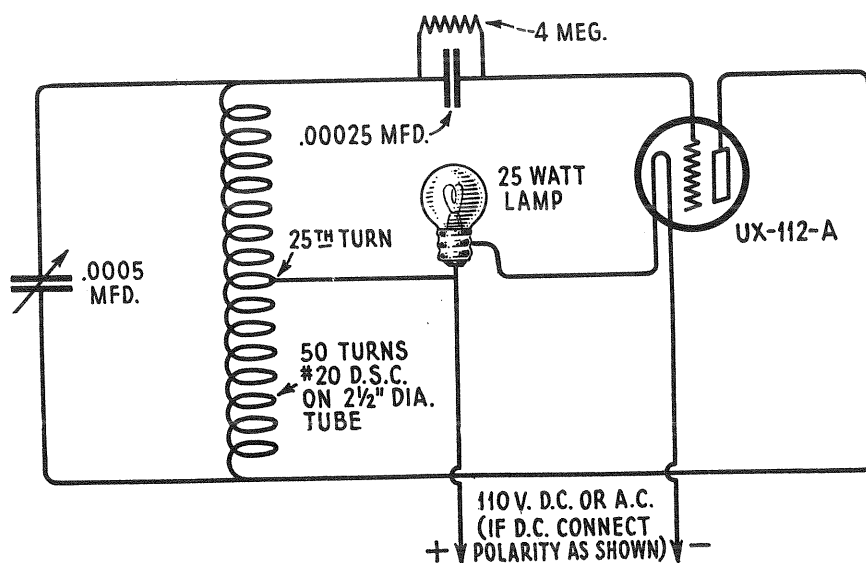

Figure 11—Schematic circuit diagram of modulated oscillator
- (b) Procure a modulated oscillator that will give a signal at 1500 K.C. and 600 K.C. or, if such an oscillator is not available, tune to a broadcast signal. The circuit diagram and electrical constants of a suitable oscillator are shown in Figure 11. The General Radio Test Oscillator Type 360 is suitable for this purpose. If the oscillator is available, place it in operation at 1500 K.C. or tune in a signal of approximately this frequency.